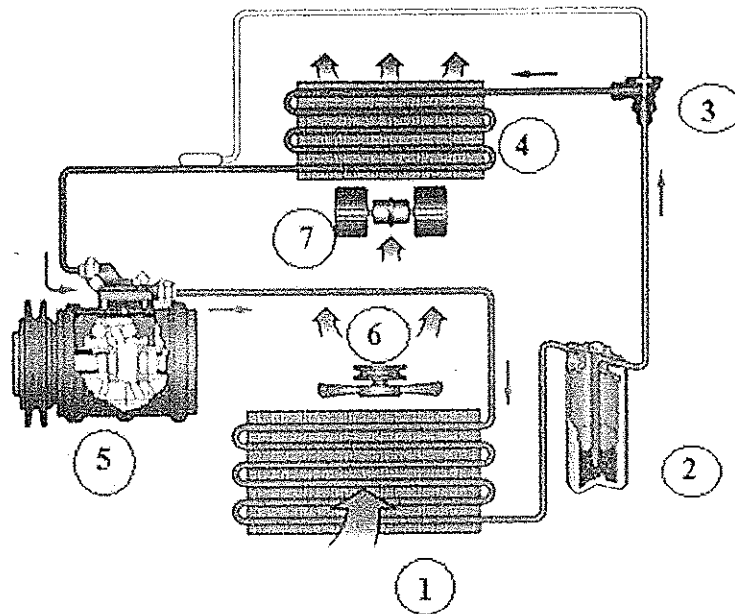

Figure Q06: Diagram of a typical automotive air-conditioning system
- (a) A typical automotive air-conditioning system is shown in figure Q06. Name the components from 1 to 7 and identify their location (within the passenger cabin or outside the passenger cabin).
- (b) Explain the operating principle of the automotive air-conditioning system shown in Figure Q06.